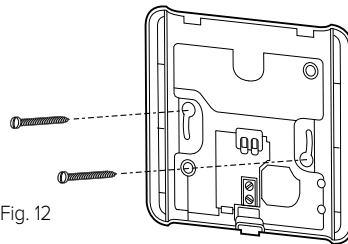

Fig. 12
- Fix the base to the wall at the chosen position, using the plugs and screws supplied with the kit (Fig. 12).